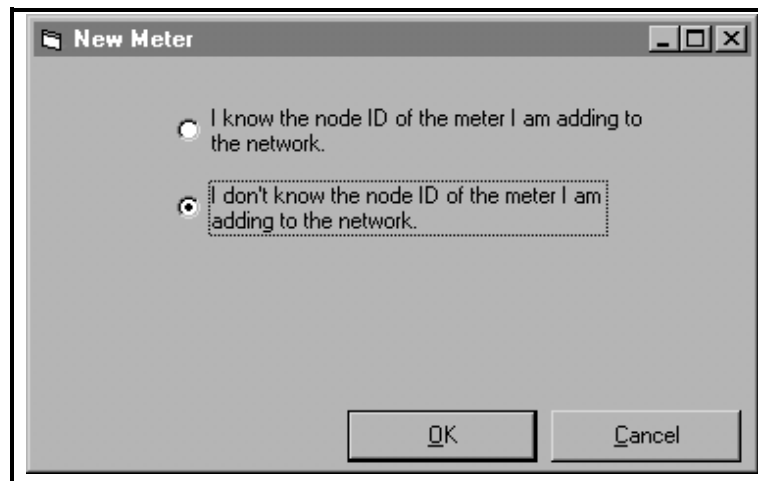

Figure 5: The Node ID Dialog Box
4. After selecting the "New" and "Meter" options, the dialog box shown in Figure 5 on the next page appears. Select the "I don't know the node ID of the meter I am adding to the network" radio button and then click on the [OK] option button.